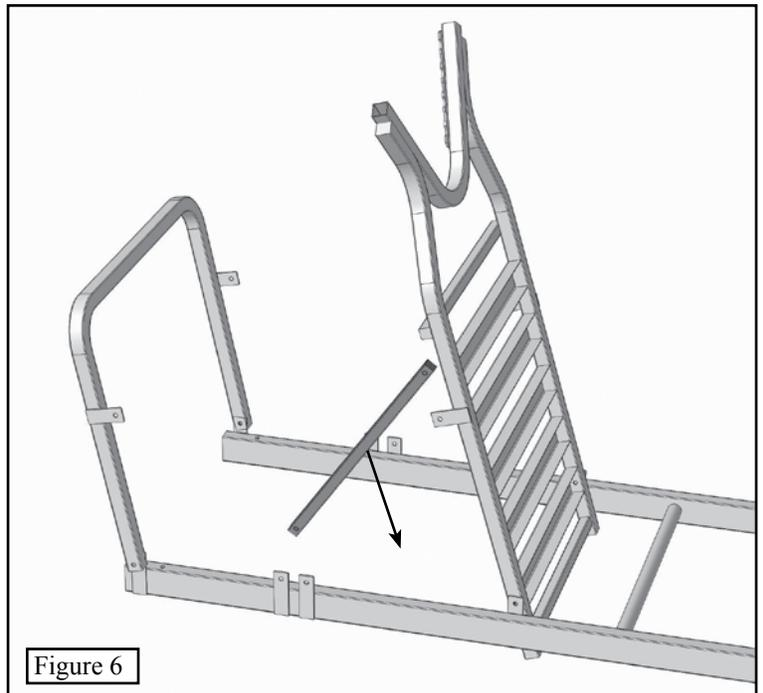

Figure 6
**Step 4.** Attach one of the support tubes to the platform as shown in **Figure 6**. The bar will bolt to the **outside** of the platform bracket. Use one 1 1/2" bolt and lock nut - hand tighten it. Run the support tube to the lower bracket on the top column assembly as shown in **Figure 7**. The bar will bolt to the **inside** of this bracket. Use one 1 1/2" bolt and lock nut - wrench tighten. Go back and wrench tighten the bolt at the platform bracket. Repeat for other platform to top column support tube.